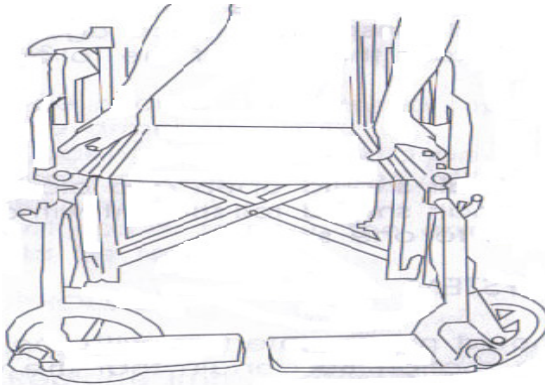

Fig. 1
2. To open the wheelchair, push seat rails and press downwards until the chair is fully opened taking care to keep fingers clear of moving parts (Fig. 1).